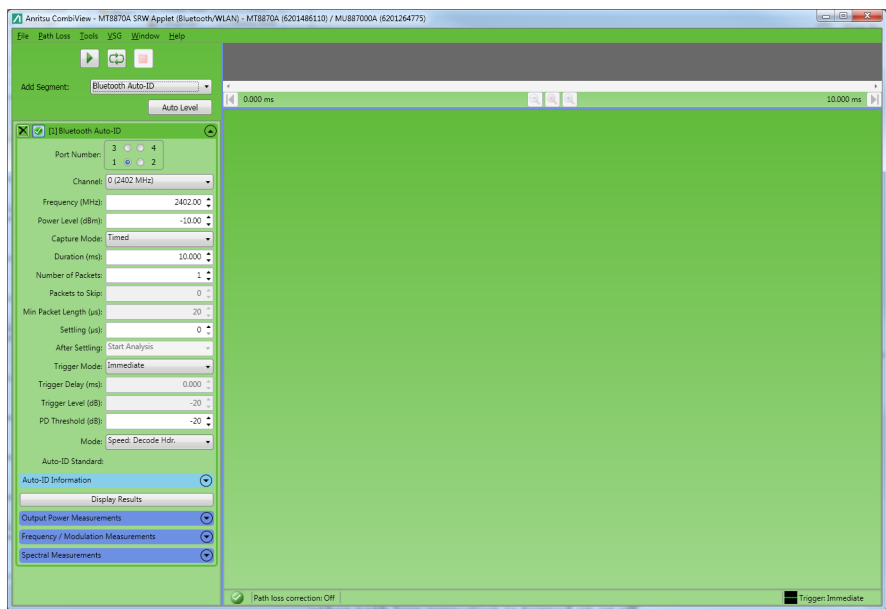

Figure 4-1. CombiView Window with Bluetooth Auto-ID Segment
4. If necessary expand the configuration settings of the new segment by clicking its title bar - Figure 4-1.